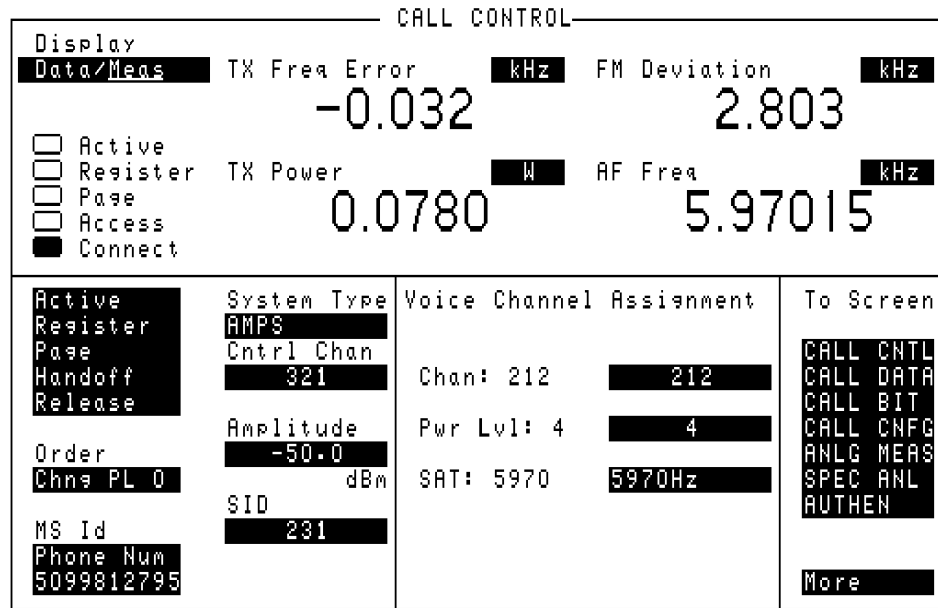

Figure 36 CALL CONTROL Screen with Meas Selected
- For system type AMPS, TACS, AND JTACS the following parameters are measured when the Test Set is in the connect state. See Figure 36, "CALL CONTROL Screen with Meas Selected," on page 489: